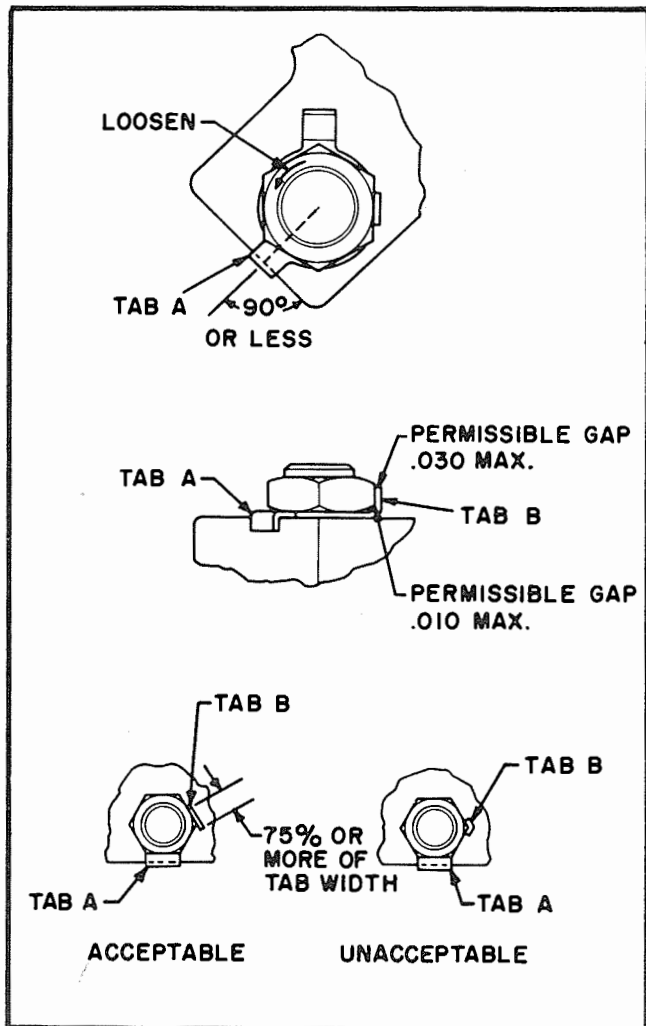

Figure 7-7. Tab Washer Applications
**7-14. TAB WASHERS.** See figure 7-7. The following principles and steps shall be applied when installing tab washers:
- b. Bend the remaining tab, "B", up across the bottom of one face of the hex until it is against the face. The two bottom views in figure 7-7 show acceptable and unacceptable bends.